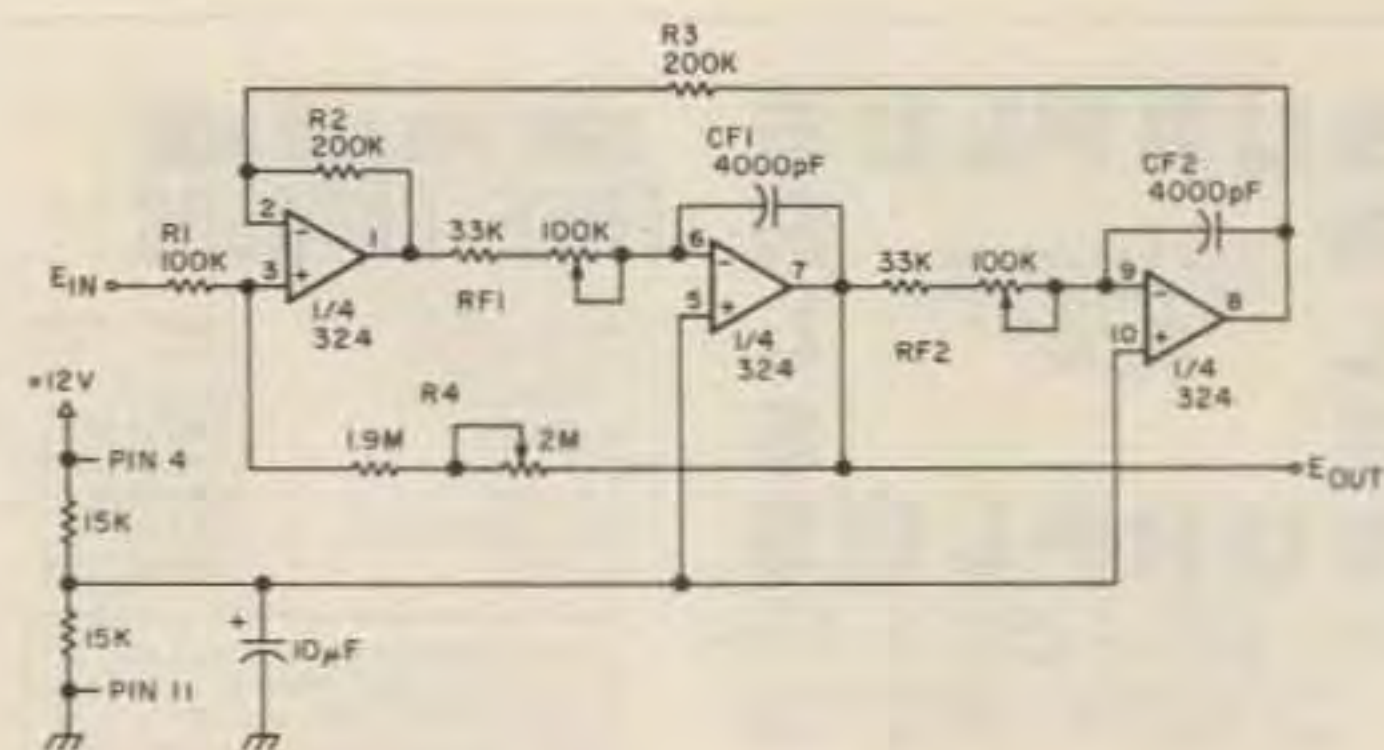

Fig. 15. A variable-Q +SVF filter.
**Step 12: +SVF.** Consider the gain. The gain of this +SVF filter, shown in Fig. 15, ranges from 20 to 40, depending upon the variable Q. Again, following this design with a compression amplifier is a must for easy use.